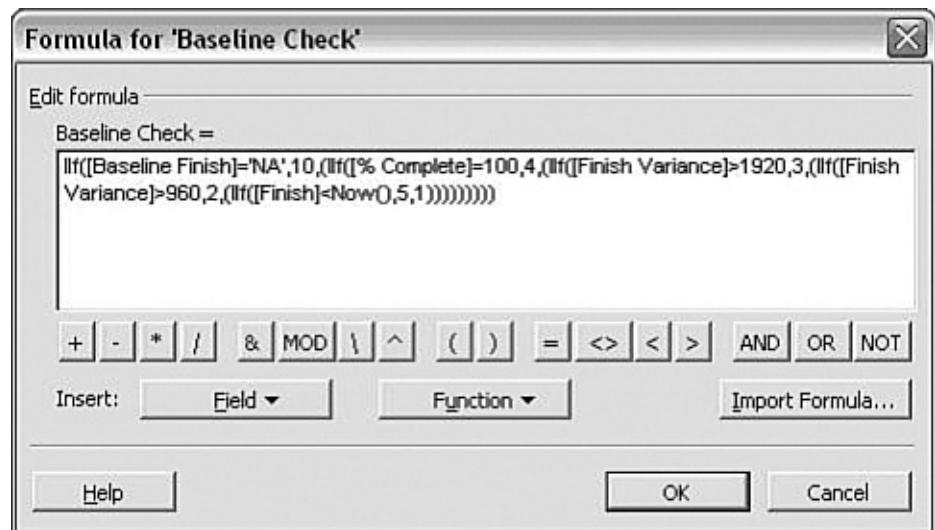
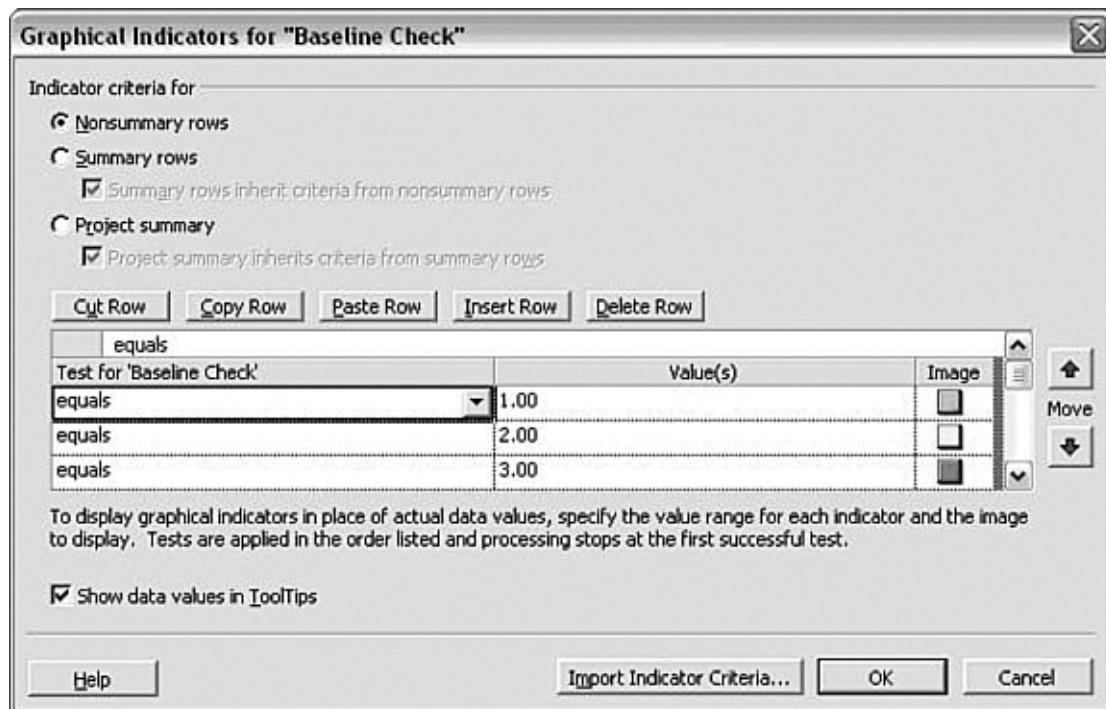
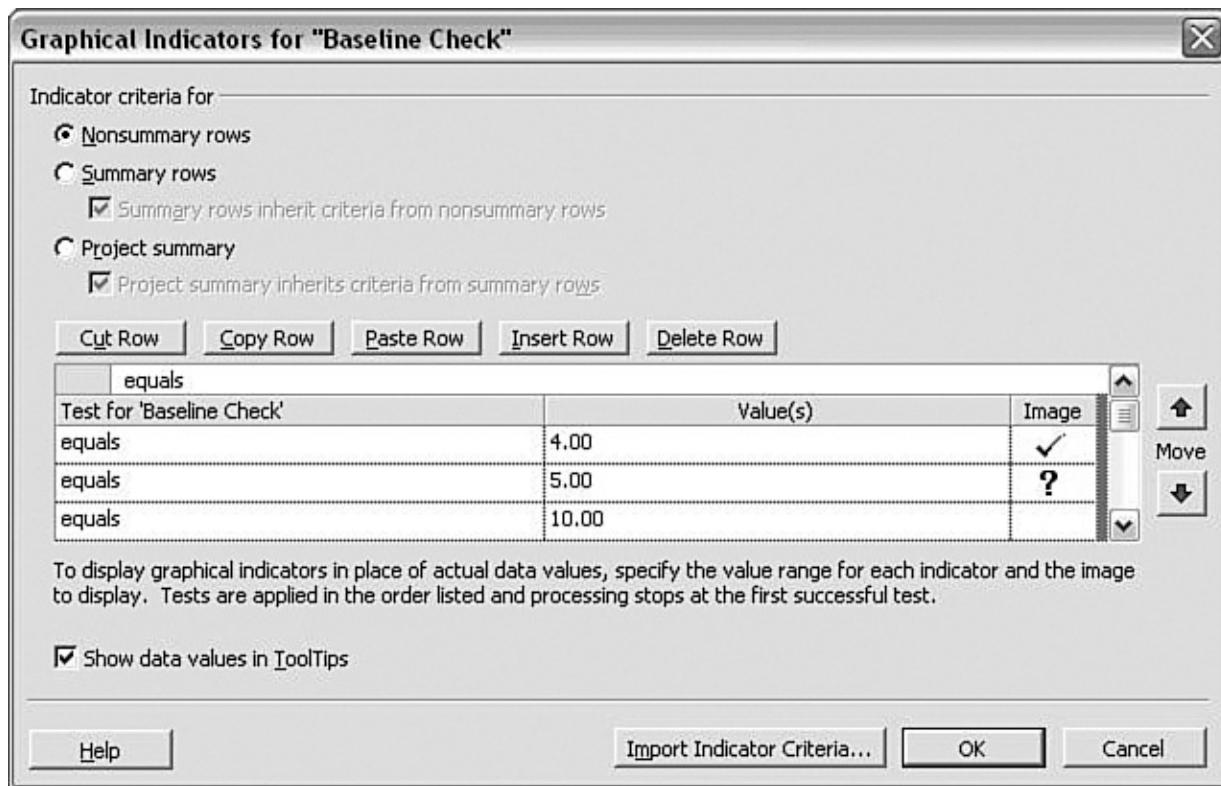

Figure 23.1. Formula assigned to custom field (Baseline Check).
Figure 23.2. Assigning formula values for Baseline Check to graphical symbols, part 1.
Figure 23.3. Assigning formula values for Baseline Check to graphical symbols, part 2.
- **Visual indicators**—As hinted earlier, the custom field can incorporate visual (graphical) indicators into your project file. Project provides a set of visual symbols that can be used to provide better reporting and better communication. You can define the field to change the graphical indicator (symbol) displayed based on the value associated with the field. The value could be a value you manually enter (and control) or the value could be automatically determined by a formula you define. See Figure 23.1, Figure 23.2, and Figure 23.3 for examples of using a formula with a custom field (Baseline Check) to automatically display a visual status for each task when comparing against the Baseline Finish date. You can refer to Table 23.2 for a summary of the logic and parameters used. Graphical indicators are defined by selecting Customize Fields, Values to Display, Graphical Indicators.